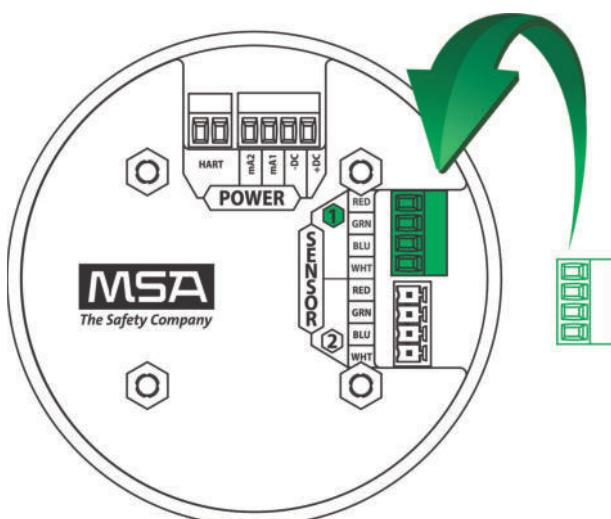

Fig. 21 Connecting a Sensor to the Board
(9) Attach the connector to the board stack, making sure the appropriate wires are in the correct terminals.
(10) Connect HART wires (for optional local HART port).
(11) Connect an XCell or XIR PLUS sensor using the green connector. Sensor wires are already connected as shown on the cover plate (see Fig. 21):